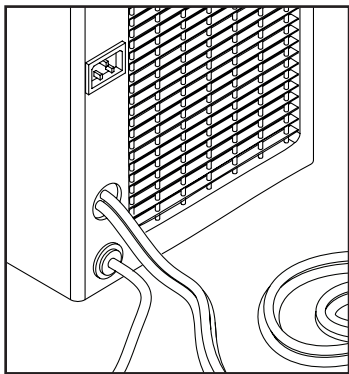

Fig 1
- Connect the open end of the tube to the 8mm push fit located on the dispenser (see Fig 1).